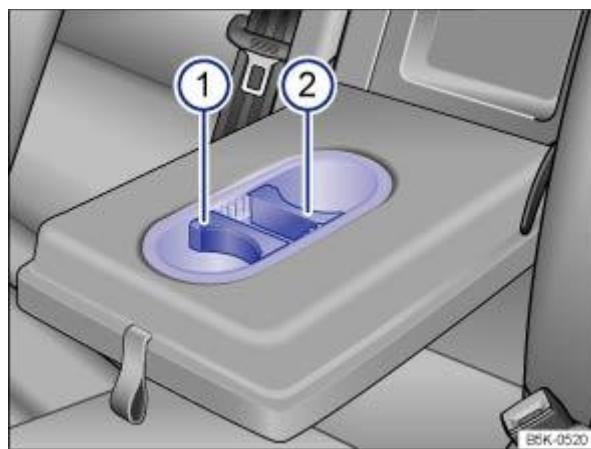

Fig. 138 In the rear centre armrest: drink holder.
To adjust to the size of the drinking vessel: pull out the inserts ⇒ Fig. 138① or ② upwards and insert them to fit the size of the vessel.